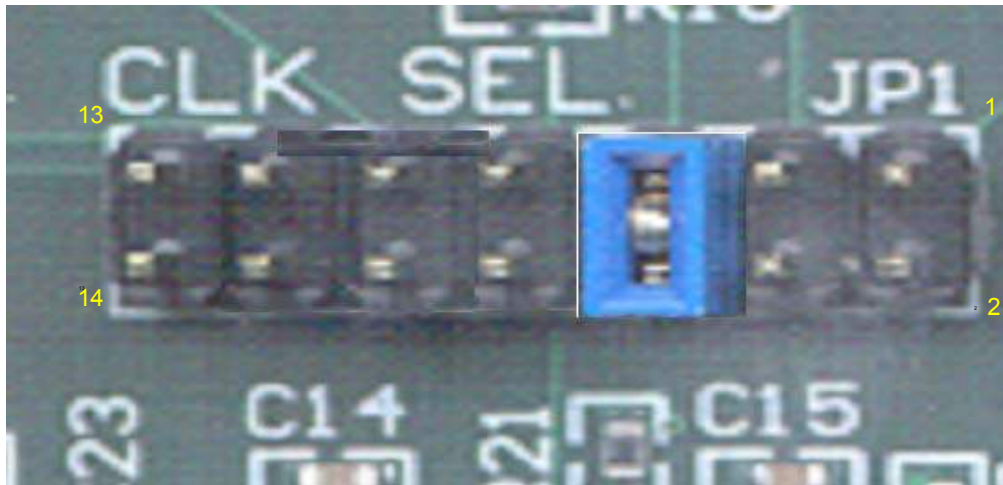

**Figure 5-1. HEB Test GUI Window**
- Click on the HEBTest icon on your Desktop or Quick Launch taskbar. This will open the GUI interface for performing the tests as shown in Figure 5-1. The default window of the GUI is the Parallel Loop Back test window.
- First select which set of tests you would like to run by clicking on the appropriate tab as mentioned in the previous section and shown in *Figure 5-1*. Within each tab there are four different methods of running that particular test. Choose the preferred method by pressing the appropriate button.